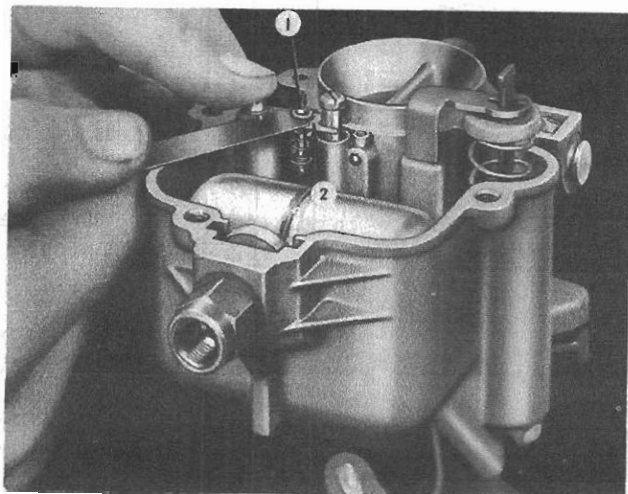
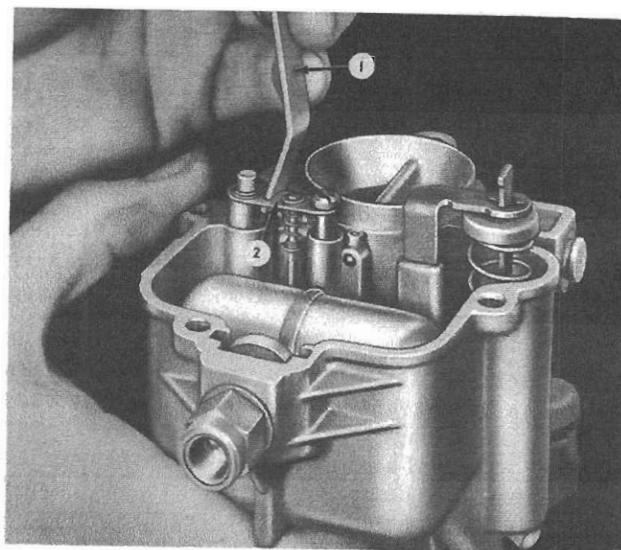

FIG. 10
FIG. 11
jet and gasket assembly (15). Install the step-up piston gasket (16) and spring (14). Install the step-up piston plate and rod assembly and the idle tube assembly. Hold the piston plate assembly down when seating the idle tube. There should be a .010" (0,254 mm.) clearance between the step-up plate (2, Fig. 10) and the rod head (1). Using Vacuum Piston Wrench Tool KMO-269-S5 (1, Fig. 11), bend the step-up plate (2) in either direction as required to obtain the correct clearance.